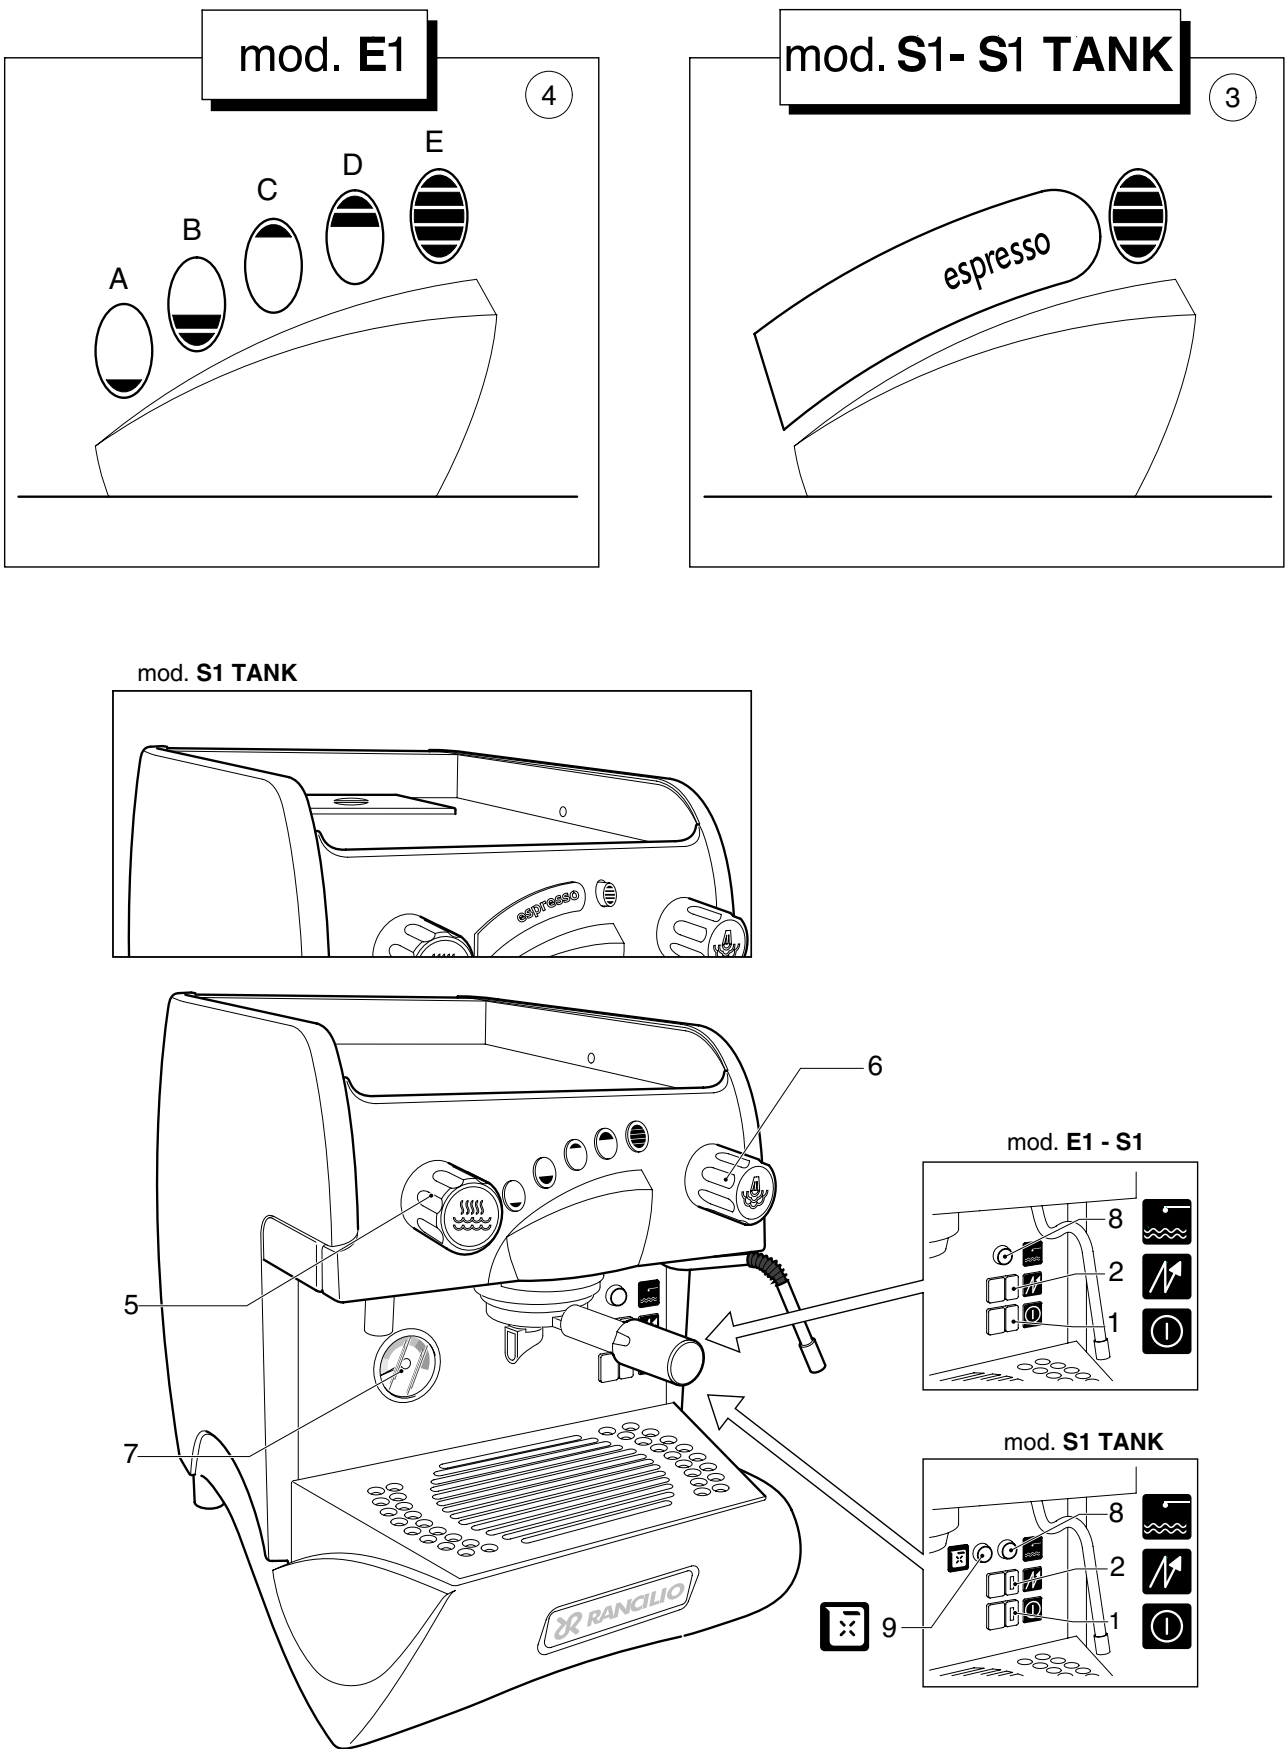

Fig. 8
7.1. Controls Fig.8
## 7.2. Control instruments (Fig.8)
- Fill the tank with 2 litres of water and close the lid; Check the LED (9 - Fig.8)
- Wait for the machine to reach its working pressure, gauge needle 7 Fig.8 on green area, and to reach the correct thermal balance.
- Place the cups under the spouts and start pouring using control 3 or button panel 4 according to model (Fig.8).
- Turn on the steam tap (6 - Fig.8) and lower the jug so that the nozzle is almost at the surface of the milk.
- Gradually turn on the steam tap 6 Fig.8; the steam that bursts in the liquid heats it to the desired temperature.